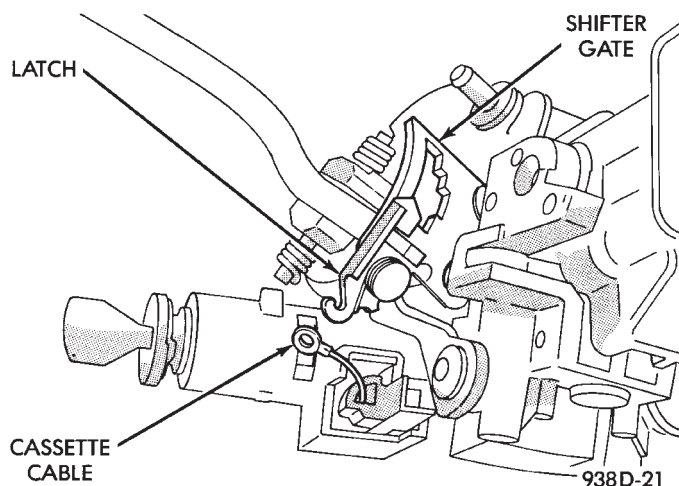

Fig. 33 Latch and Shifter Gate
(1) Ensure the latch rotates freely on the shifter gate (Fig. 33).
(2) With the shifter in Park and the key removed, install the cable over the hook on locking arm of the shifter mechanism.
(3) Slide the cassette into the housing until it locks in place.